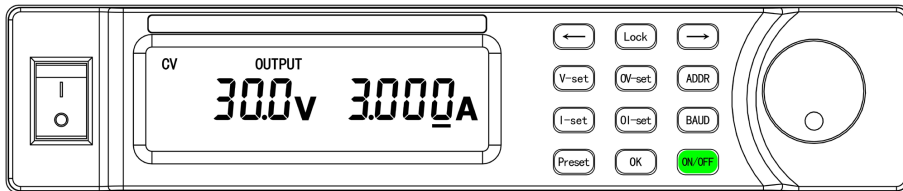

Fig.5-6
- Press ON/OFF key to turn on output (refer to Fig.5-6). ON/OFF key lights up.
- As shown in Fig.5-6, there is an underscore in the current value. It means that the current value is under setup mode. The output current can be adjusted. Tune the adjustment knob to adjust current value. Use direction keys ← and → to move cursor to the next digit for adjustment.